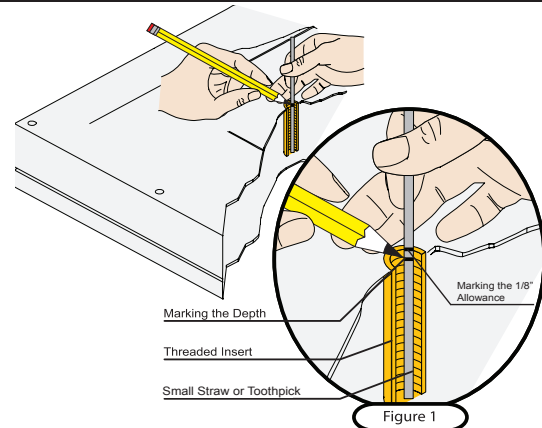

Figure 1
- 3 Mark the straw or toothpick 1/8" above the depth of the threaded insert, as shown in Figure 1.